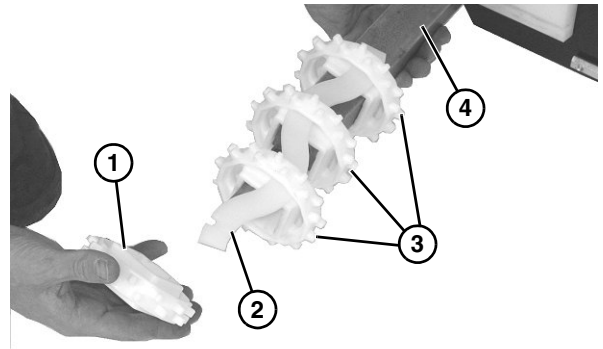

Figure 37
11. Slide entire sprocket assembly slightly outward, and remove the first sprocket (**Figure 37, item 1**) off the drive spindle and alignment bar (**Figure 37, item 2**).
12. Remove remaining sprockets (**Figure 37, item 3**) off the alignment bar as you slide entire assembly off the drive spindle (**Figure 37, item 4**).